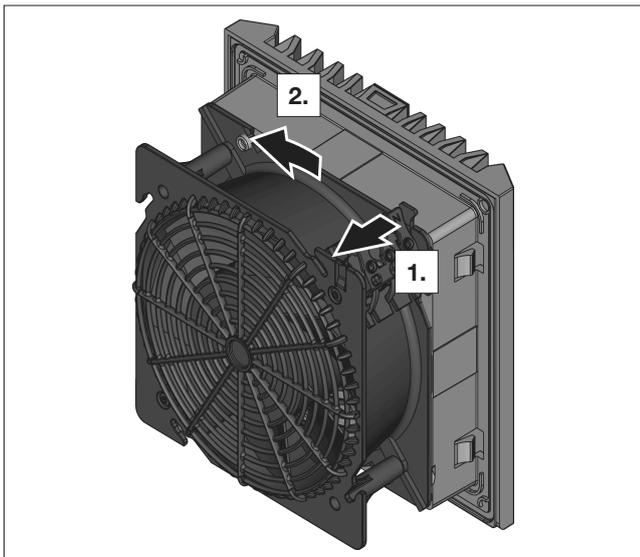

Fig. 12: Release the bayonet connection
- To unlock the bayonet connection, pull the bracket (see fig. 12) of the bayonet catch at the rear of the fan. This is located on the corner of the connection terminal.